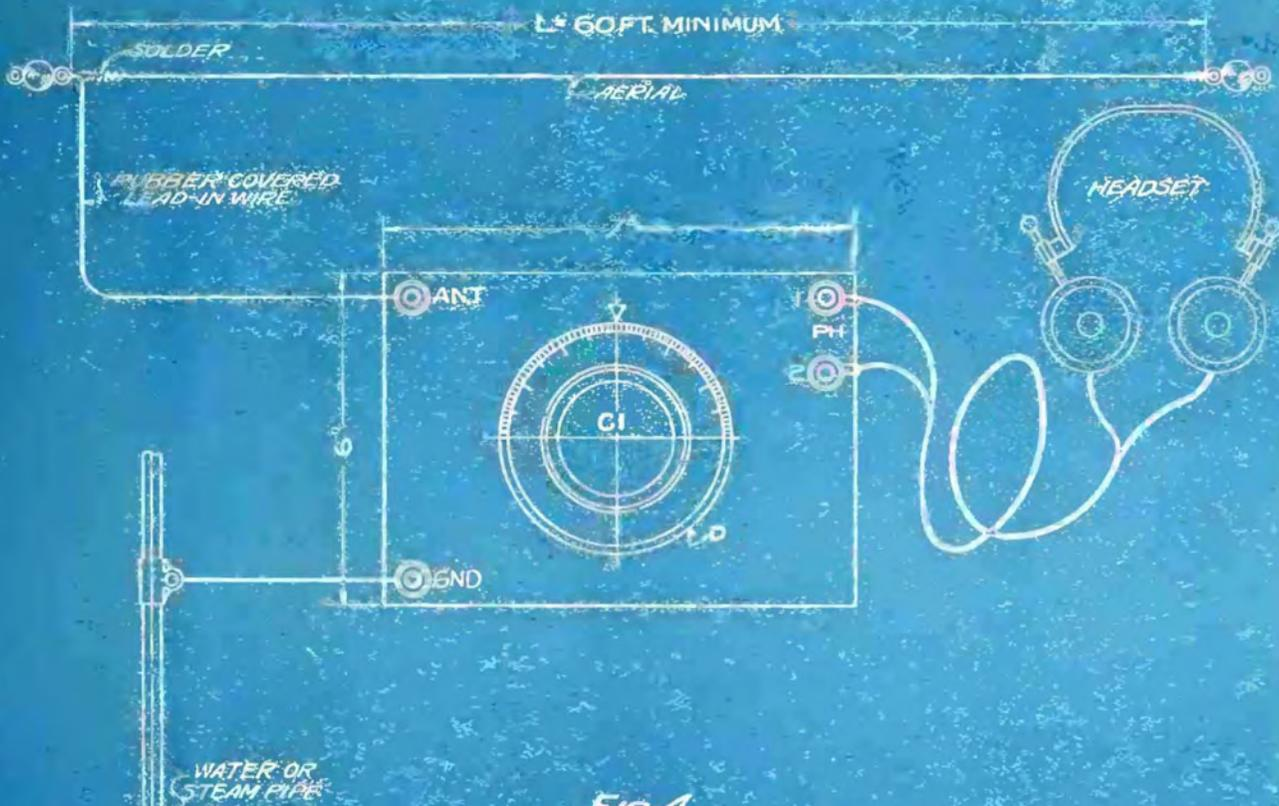

FIG 4
It is most convenient to mount the apparatus on a 6 in. x 7 in. x 3-16 in. panel as shown by Fig. 4 with the tuning dial (D) appearing on the front of the panel as shown. The aerial binding post is at ANT, the ground connecting post at GND, and the phone posts at PH. The method of connecting to the aerial and ground is also shown in this view, the ground being a connection to a water or steam pipe.